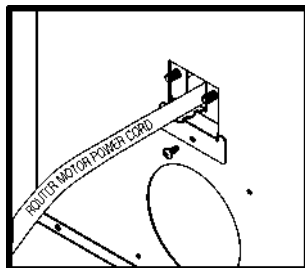

FIGURE D-3
4. Secure the Strain Relief Bracket to the Cabinet with a Sheet Metal Screw #8 x 3/8". **FIGURE D-3.**